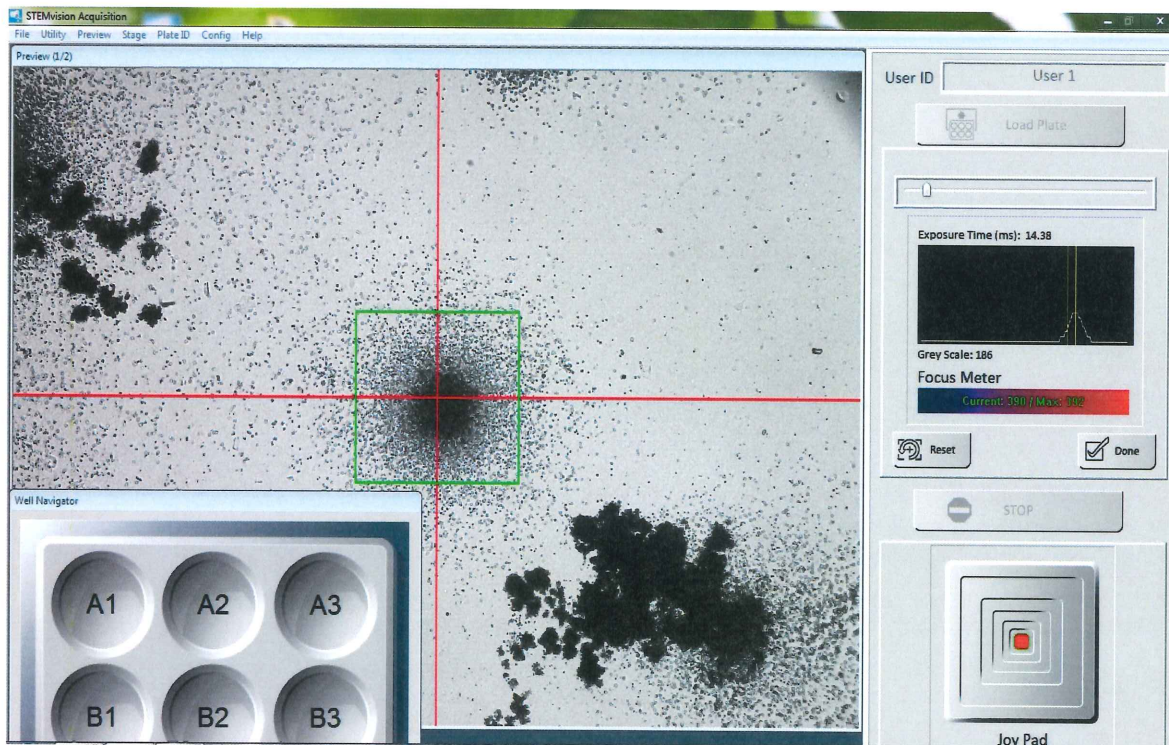

Figure 8: Setting the Focus in the "Set Focus and Illumination" Dialog Box of the STEMvision™ Acquisition Application.
- i. Use the Joy Pad to find a location in the well so that a myeloid (i.e. CFU-GM) colony with individual cells around its periphery is placed inside the focus area (i.e. green box in the Preview Window) as shown in Figure 8.